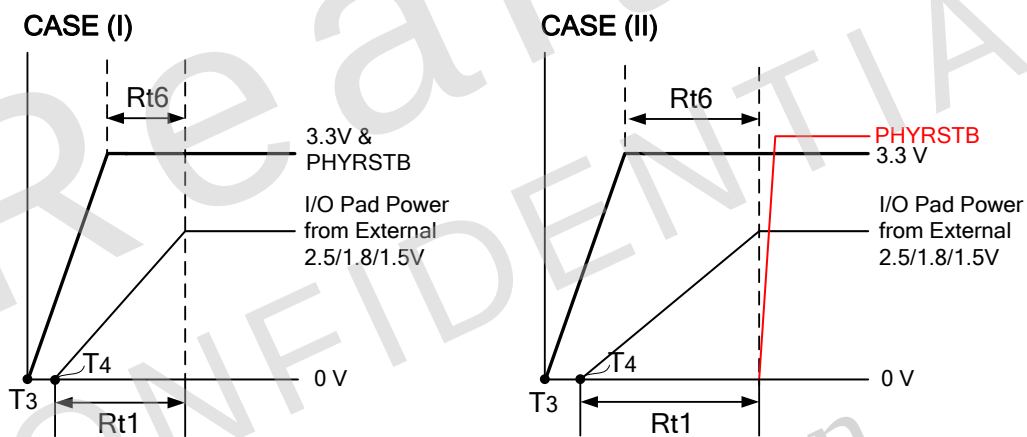

Figure 11. Power Sequence (I/O Pad Power Sourced Externally)
Note 5: When using an external power source for the I/O pad, the power should rise simultaneously or slightly later than 3.3V power, i.e. $T_4 \geq T_3$ in Figure 11.
Ready time of the external power should be within 5ms after 3.3V is ready. See CASE(I) in Figure 11, page 49.
PHYRSTB should be kept low until the external power is ready. See CASE(II) in Figure 11, page 49. Note that for this case, there is no constraint on the 'max' value of Rt6.